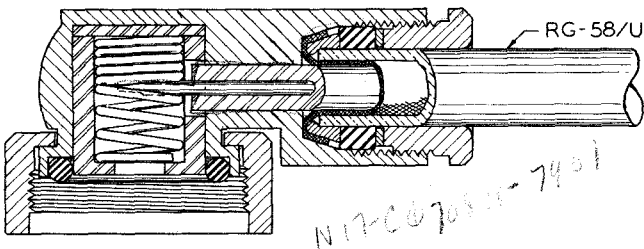
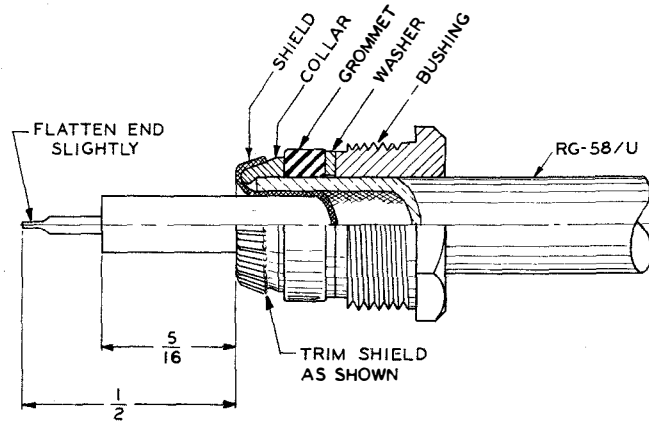

Fig. 5-2. Connector, Plug CAWY-491859 (D-C Plug P-101)
Fig. 5-3. Cable Service For Connector, Plug CAWY-491859 (D-C Plug P-101)
d. D-C PLUGS - CABLE SERVICE - Fig. 5-2 shows construction of the d-c plugs P-101 to P-104, Navy Type CAWY-491859. Fig. 5-3 shows proper service of RG-58/U cable for these plugs. To remove cable from this plug unscrew the bushing and pull cable out. The center conductor of the cable makes tight contact between turns of the coil spring when assembled. For easiest assembly of cable to plug, flatten the end of center conductor as shown on Fig. 5-3, and align the resulting chisel point with turns of the spring while pushing in the serviced cable.
(1) The resistance to ground measured at D-C Jack J-103 indicates the insulation resistance of both voltmeter circuits. This resistance should be over 20 megohms. Low insulation resistance probably indicates moisture within the voltmeter housing. The various jacks and the joint between frame and cover castings are not hermetically sealed.